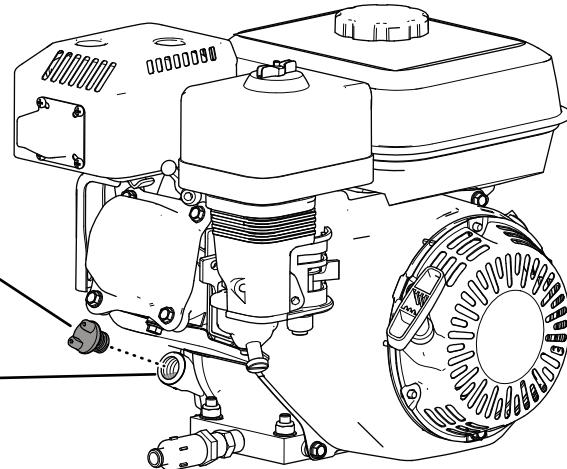

Figure 28
2. Clean the area around the oil-filler cap (Figure 28).